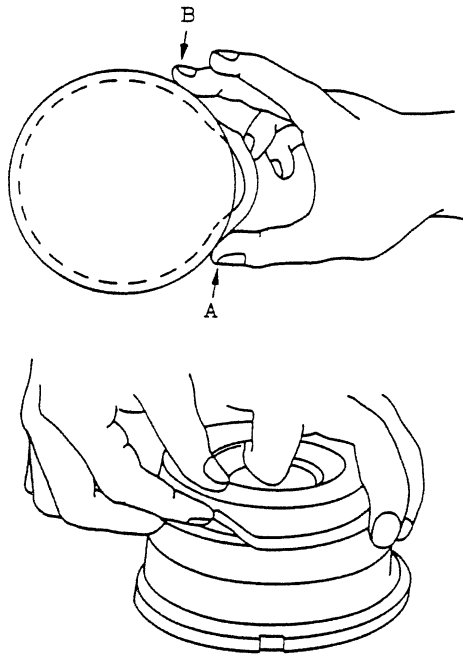

Fig. 5-29
- (1) Remove O-rings (23) (25), by pushing A and B with fingers and removing the pried out part with the other hand. Remove back-up ring (24) at this time. (See Fig. 5-29)